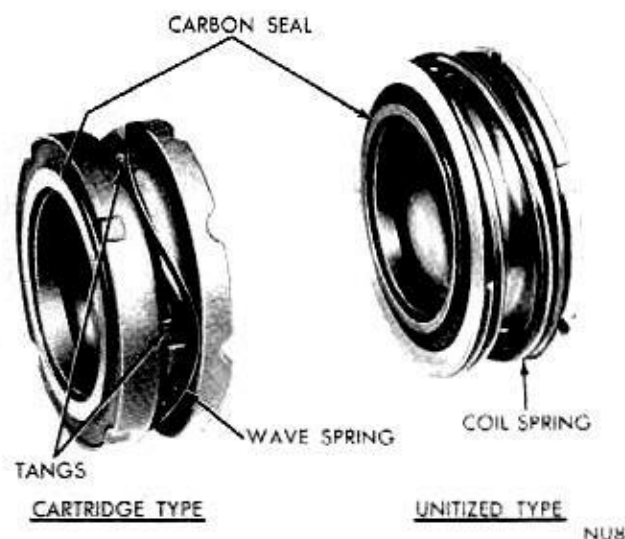

Fig. 13—Gas Seal Identification
The crankshaft gas seal replacement package consists of the crankshaft gas seal assembly and crankshaft bearing housing seal seat plate. Two types of crankshaft seals are supplied for service (Fig. 13). If the replacement package contains the cartridge-type seal, follow the entire installation procedure given below. If the replacement package contains the unitized type seals, follow the appropriate sections only.
(2) Before installing the cartridge-type assembly, inspect the assembly to make sure that the tangs of the carbon seal are indexed in the slots of the mating steel part (Fig. 13).
(3) Immerse the seal assembly in clean refrigerant oil, carbon ring up.
(4) Hold the seal assembly firmly at the outside edge, at the same time preventing the ring from coming out of position. Do not touch the sealing face of the carbon seal.
(5) When the seal bottoms against the crankshaft bearing, inspect the indexing tangs of the carbon ring again.
(6) Oil the bearing housing oil seal and install. (Make certain that the seal is evenly stretched into position.)
(7) Wipe the seal seat clean with a lint-free cloth, and re-oil with refrigerant oil.
(8) Install the bearing housing, taking care to ensure that the "nose" of the crankshaft does not touch the seal seat in the bearing housing.
(9) Insert 5, 1/4 x 20 screws and pull bearing housing squarely into position. This must be done 1/2 turn at a time per screw so that the ball bearing outer race will not be jammed by the bearing housing.
(10) Replace drive key in shaft.
(11) Assemble clutch to compressor and turn crankshaft by turning clutch armature. No more than 10 inch-pounds of torque should be required to turn crankshaft. If shaft is tight, remove clutch